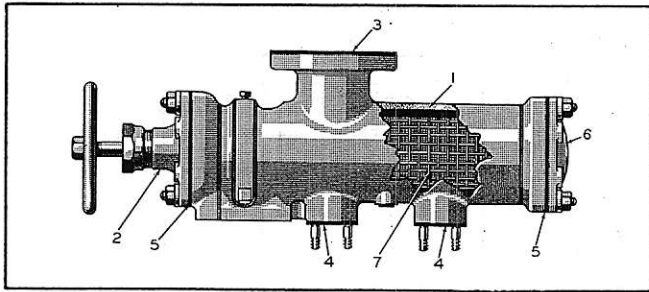

Fig. 23 - Suction Manifold -
PARTS LIST, Fig. 23
The suction manifold for 11" x 10" and 11-1/2" x 10" compressors is shown in Fig. 23. It contains the suction strainer, suction stop valve, and flanged connections for by-pass and pump-out valves; also female threaded connections for crankcase pump-out, thermometer socket, and suction gauge. Piping is shown in Fig. 3.
- (a) The low pressure suction enters the cylinder at the shaft stuffing box end of the compressor through the standard suction manifold (See Fig. 23), and the high pressure suction gas enters the cylinder at the oil pump end of the compressor through a standard 4" globe valve and an angle type strainer.